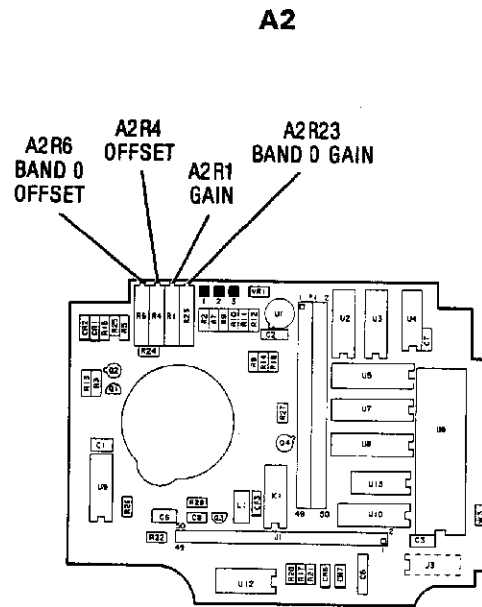

Figure 5-34. Frequency Reference Adjustment Locations
2. Adjust A2R4 (OFFSET) to the center of its mechanical range. Refer to Figure 5-34 for the adjustment location.